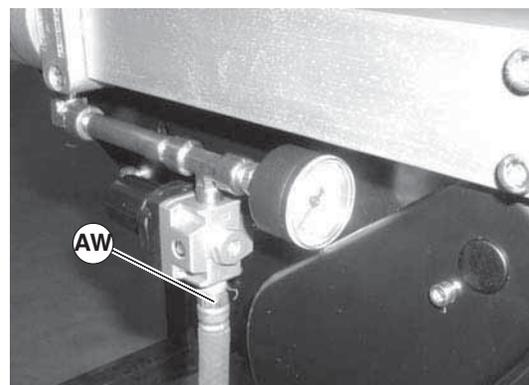

Figure 39
5. Reattach air supply (Figure 39, item AW) to center drive. Refer to “Conveyor Belt Tensioning” section on page 17 for more information.
7. Reattach air supply (Figure 39, item AW) to center drive. Refer to “Conveyor Belt Tensioning” section on page 17 for more information.